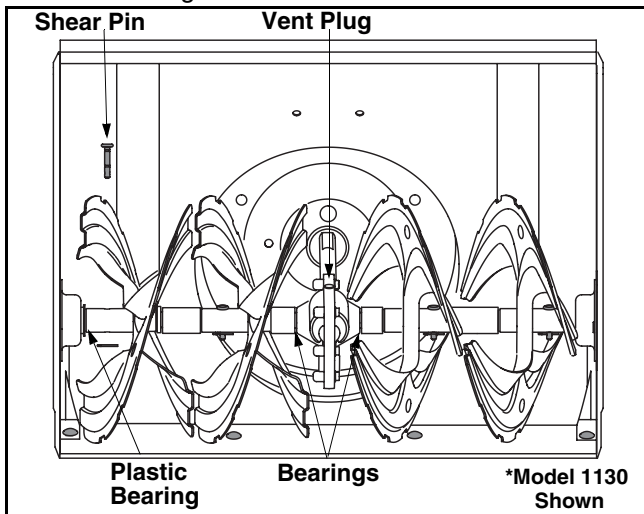

Figure 14
The gear case is lubricated with grease at the factory and it does not require checking. If disassembled for any reason, lubricate with 2 ounces of Shell Alvania grease EPR00, part number 737-0168. Before reassembling, remove old sealant and apply new sealant. See Figure 14.
- At least once a season, remove the shear pins from the auger shaft and spray lubricant inside the shaft. See Figure 14.
Every season lubricate the auger bearings and the bearings on the side of the frame with light oil. See Figure 14.